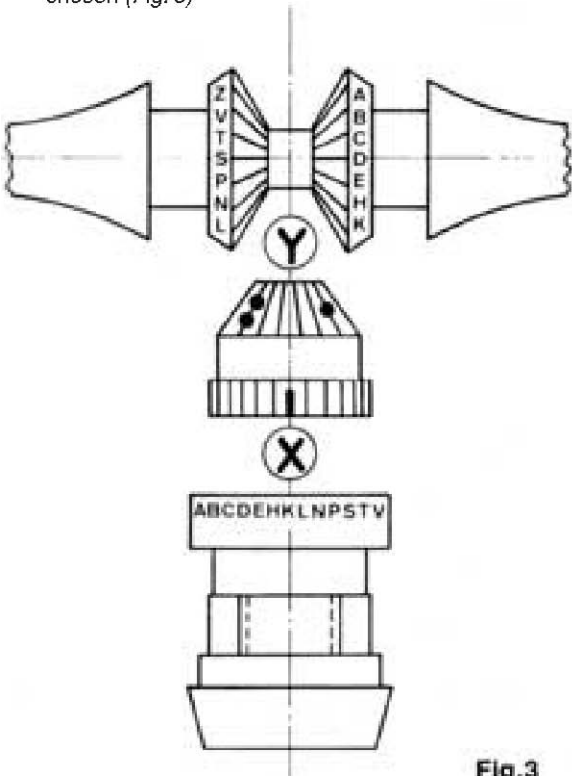

Fig.3
alineara la marca denominada "X", posicionada sobre el engranaje en la letra correspondiente al ángulo deseado. (Fig.3).
Insert the central cone gear [6] in its seat in the hub [1] making sure to align the little cut named "X", located on the bottom of the central cone gear, with the letter corresponding to the angle chosen (Fig. 3)
chosen (Fig. 3)
D) Haga engranar los dientes de las dos palas [8] con el engranaje central [6] prestando especial atención en que las marcas denominadas "Y" correspondan con las letras de cada ángulo. (Fig 3)
Next engage the gear [6] on the blades [8] with those of the central cone gear as shown in figure 3, making sure to align the referements named "Y" with correct letters corresponding to the angle choosen. NOTE: The letters from "A" to "K" marked on the teeth of one blade must engage with "•". On the central cone gear [6].